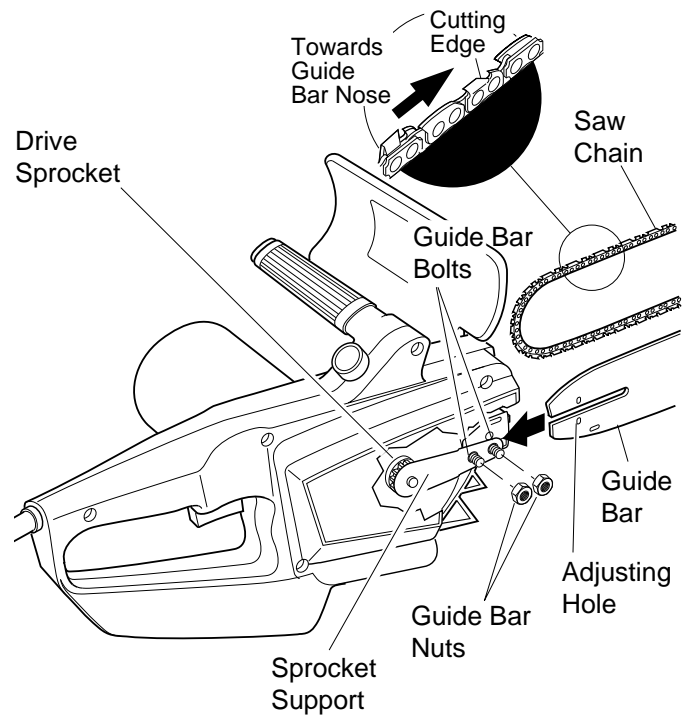

Figure 16 - Assembling Guide Bar, Chain, and Hand Guard
1. Before adjusting chain, make sure guide bar nuts are only finger tight (see Figure 16, page 11). Also make sure adjusting block is in oval adjusting hole on guide bar (see Figure 16 and 17, page 11).
3. Remove guide bar nuts from guide bar bolts (see Figure 16).